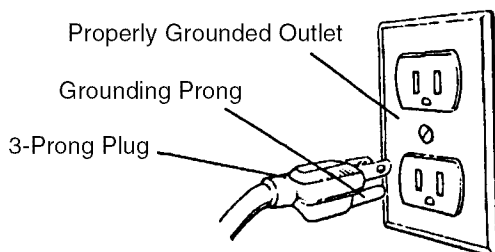

Figure 4 - 3-Prong Receptacle
Refer to Figures 4, 5 and 6, pages 4 and 5.
- This tool is equipped with an approved 3-conductor cord rated at 300V and a 3-prong grounding type plug (see Figure 4) for your protection against shock hazards.
- Grounding plug should be plugged directly into a properly installed and grounded 3-prong grounding-type receptacle, as shown (Figure 4).